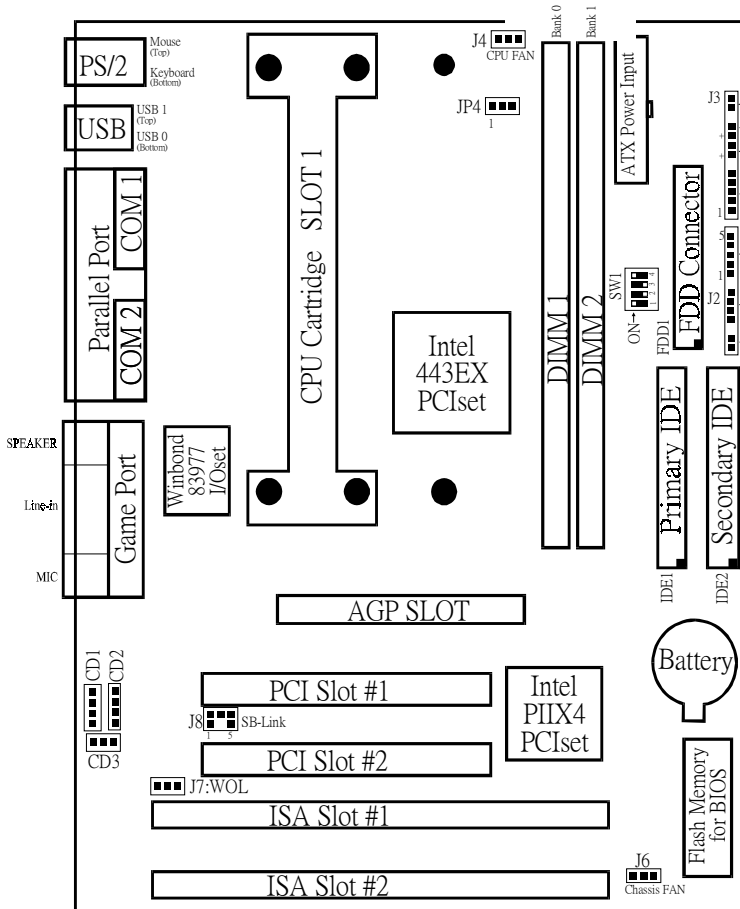

Figure 1
*Note: The DIP Switch as depicted as shown (Figure 1) in their correct physical orientation.*